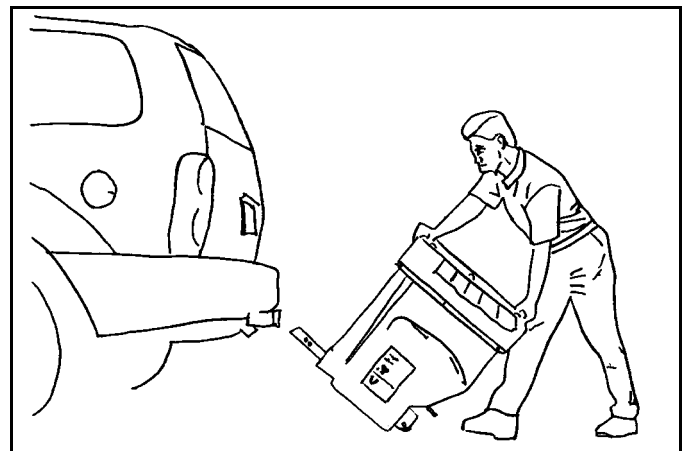

Figure 1-3
6. Tilt and roll spreader to storage location. (See Figure 1-3)